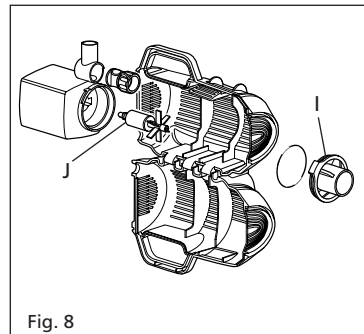

Fig. 8
- Release the Pump Chamber, Fig 8 (I), by
- Pull the Rotor Assembly out of the Motor Body. See Fig 8 (J).